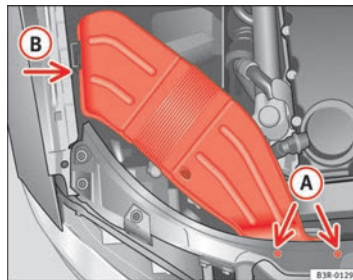

Fig. 192 Air duct on right side of vehicle
- Unscrew bolts **A** ⇒ fig. 192.